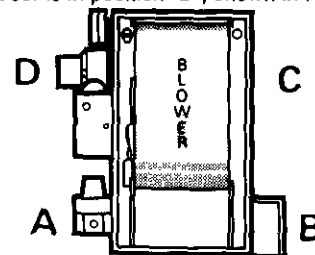

Figure 34 (4-042)
1. Installing draft inducer when you leave gas and electrical controls in as-shipped position. As-shipped controls are in position "A" and draft inducer is in position "D", shown in Figure 34.